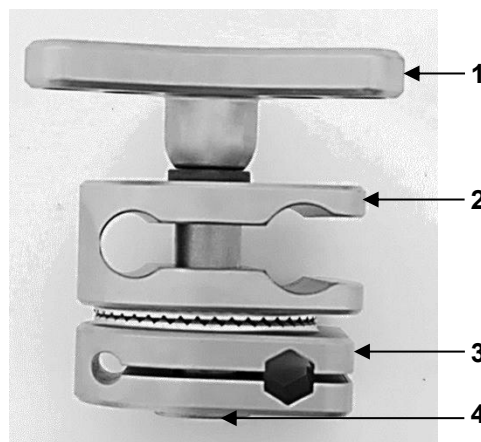

Fig. 9: Cross connector EEN-1
Figure 9 shows the EEN-1 cross connector. It consists of a star grip handle (1), an upper (2) and a lower (3) clamping piece and a threaded rod (4).